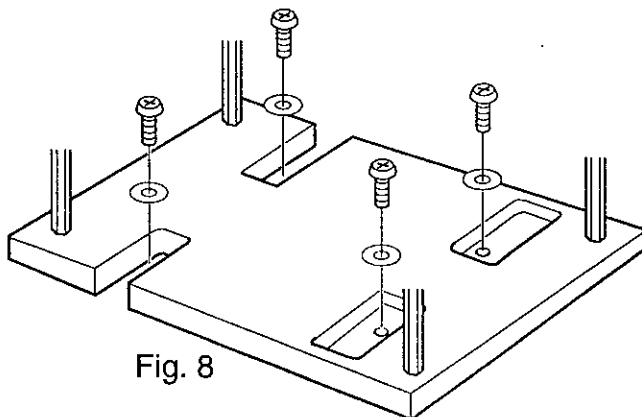

Fig. 8
Step 8. Invert the alignment fixture and remove the lower flexure assembly screws. (Fig 8).